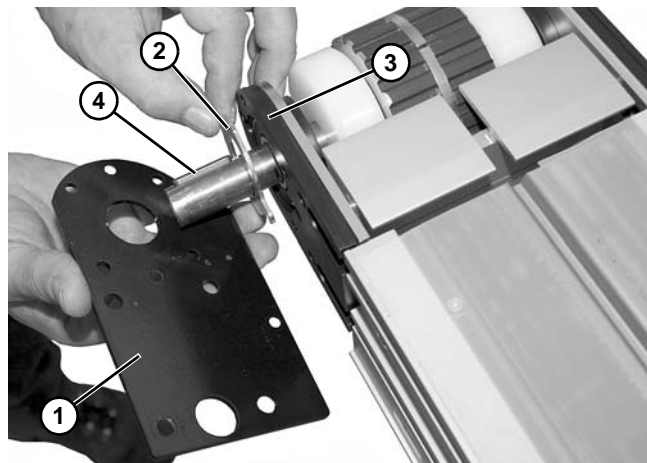

Figure 43
3. Pull back the outer headplate (**Figure 43, item 1**), and remove the washer (**Figure 43, item 2**) and inner spacer (**Figure 43, item 3**).
4. Remove drive shaft keyway (**Figure 43, item 4**).